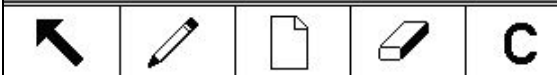
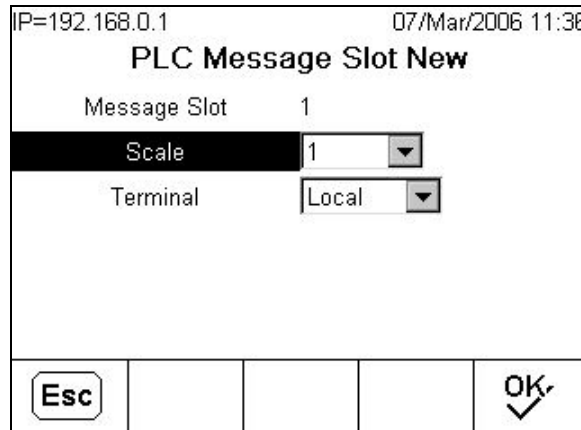

Figure 3-13: Message Slots View Screen
Figure 3-15: New Message Slot Screen
- F. Depending on which format is selected, press the VIEW TABLE softkey  to set up the number of Message Slots (maximum number is 12, default is 0), or to configure the Template for communications between the IND780 and the PLC. Figure 3-13 shows the Message Slots View, which is viewed whenever the Format is not Template.
Figure 3-15 shows the screen that opens when NEW is selected from the Message Slots View screen (Figure 3-13).